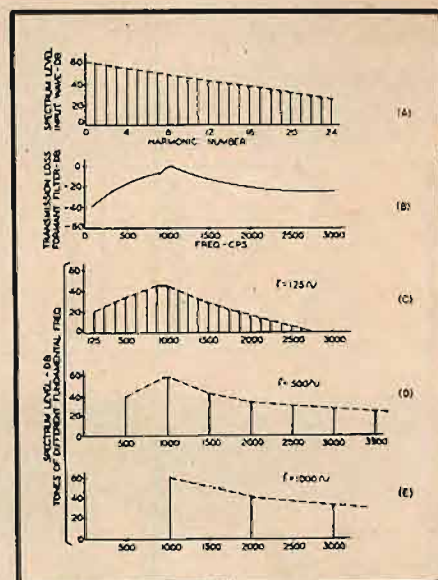

Fig. 2. How the formant affects the spectrum of an instrument.
Figure 2 shows an example, a curve of the spectrum of a hypothetical instrument. This instrument is so constructed that it tends to emphasize any tones occurring at and around 1,000 cps. Let us put into this instrument at the mouthpiece a sawtooth wave. Such a wave has a large progression of harmonics, each of which is inversely proportional in power content to its ordinal number; that is, the 3rd harmonic has  $\frac{1}{3}$  the power of the fundamental, the 7th has  $\frac{1}{7}$  the fundamental power, and so on. The harmonic content of this wave is shown in (A). In (B) you see the curve showing the shape of our instrument's frequency spectrum.